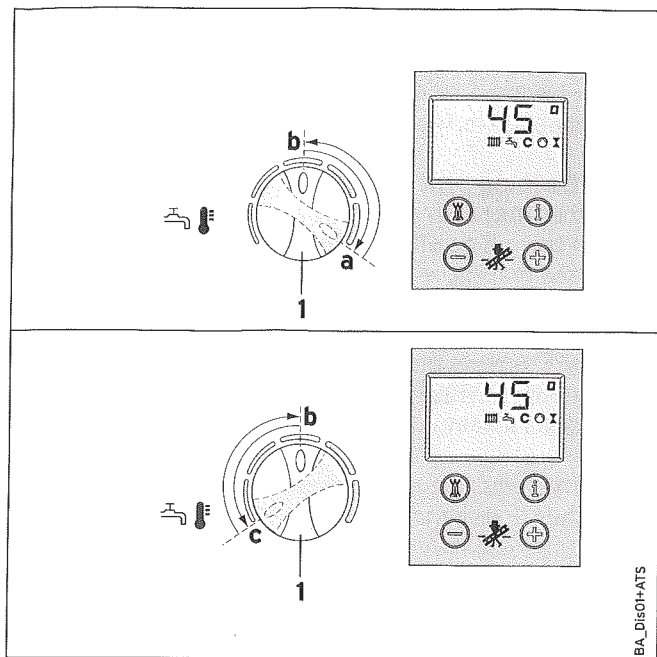

Fig. B.6 Warmstart operation (ecoMAX 800 series only)
- The warmstart system is activated by turning the hot water temperature control knob (1) clockwise to position a (see fig.B.6). Now select the required temperature, e.g. setting b. An illuminated "C" symbol appears on the boiler display. The boiler will now provide instantaneous delivery of hot water directly when a hot water tap is turned ON.
- The warmstart system is switched OFF by turning the hot water temperature control knob (1) anticlockwise to position c. The "C" is NOT now illuminated. Reset the hot water temperature control knob to the desired setting, e.g. setting b.